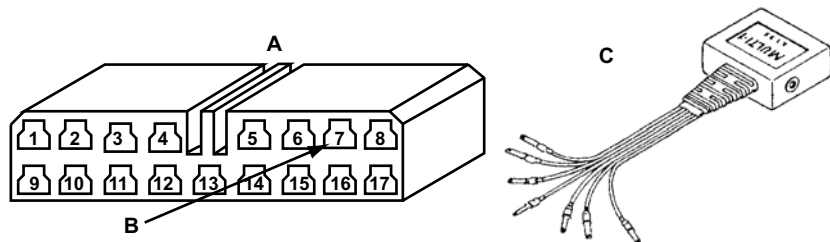

Figure 15-27 17-pin Check connector
- b. If your Check connector is 17-pin, connect the blue wire of the MULTI-1 adapter to pin 7 of the Check connector (Figure 15-27).